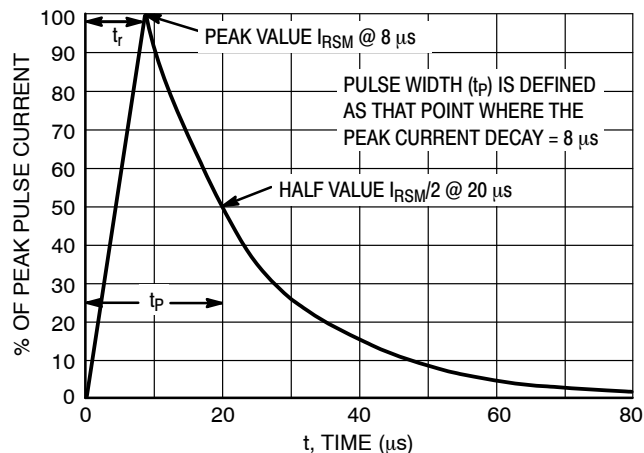

Figure 5. 8 X 20  $\mu$ s Pulse Waveform
1. Surge current waveform per Figure 5.